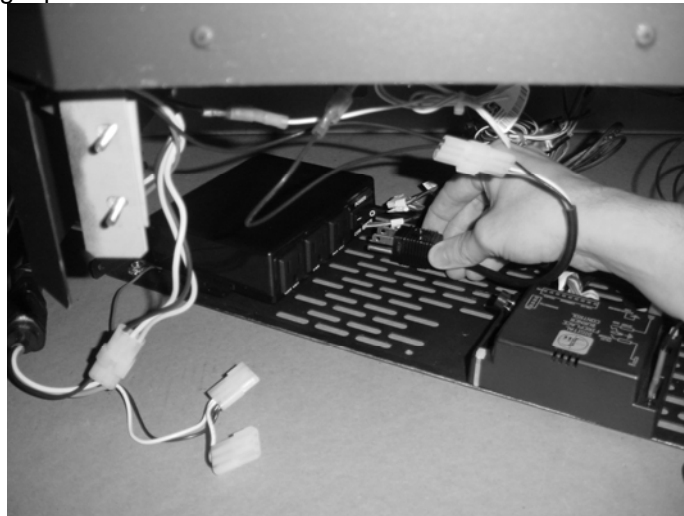

Figure 28
- 18 Attach the accent light power lead to the fan controller in the "AUX OUT" receptacle (see Figure 28).